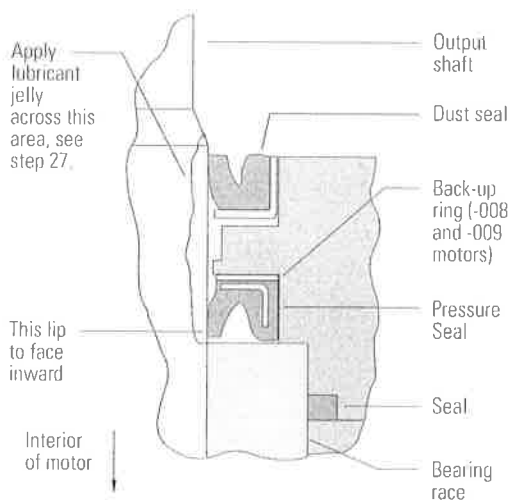

Figure 14
27. Before installing flange and seal assembly over shaft, place protective sleeve or bullet over shaft. Then lubricate space between exclusion seal and pressure seal, as well as lips of both seals (see Figure 14).